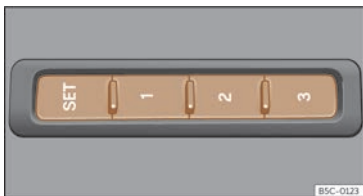

Fig. 98 On the outer side of the driver's seat: memory buttons.
- Press **SET** for longer than 1 second >>> Fig. 98.